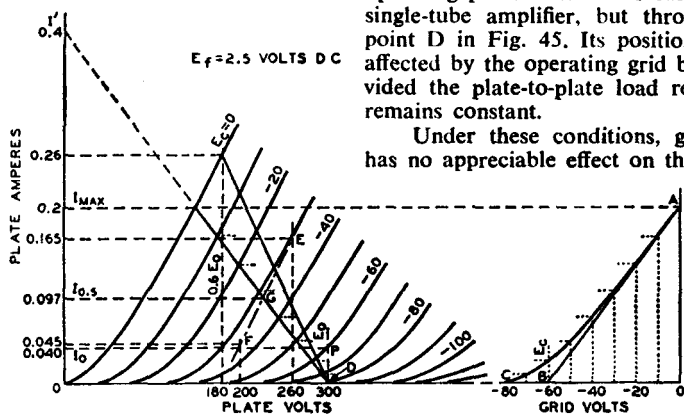

Fig. 45—Graphic calculations for class AB1 amplifier using a power triode.
In class AB1 push-pull amplifier service using triodes, the operating conditions may be determined graphically by means of the plate family if  $E_o$ , the desired operating plate voltage, is given. In this service, the dynamic load line does not pass through the operating point P as in the case of the single-tube amplifier, but through the point D in Fig. 45. Its position is not affected by the operating grid bias provided the plate-to-plate load resistance remains constant.
In general, for any load line through point D, Fig. 45, the plate-to-plate load resistance in ohms of a push-pull amplifier is  $R_{pp} = 4E_o/I'$ , where  $I'$  is the plate-current value in amperes at which the load line as projected intersects the plate-current axis, and  $E_o$  is in volts. This formula is another form of the one given under push-pull class A amplifiers,  $R_{pp} = 4(E_o - 0.6E_o)/I_{max}$ , but is more general. Power output =  $(I_{max}/\sqrt{2})^2 \times R_{pp}/4$ , where  $I_{max}$  is the peak plate current at zero grid volts for the load chosen. This formula simplified is  $(I_{max})^2 \times R_{pp}/8$ . The maximum-signal average plate current is  $2I_{max}/\pi$  or  $0.636 I_{max}$ ; the maximum-signal average power input is  $0.636 I_{max} \times E_o$ .
**Example:** Fig. 45 illustrates the application of this method to a pair of power triodes operated at  $E_o = 300$  volts. Each tube has a plate-dissipation rating of 15 watts. The method is to
the plate family and the load line. Fig. 46 is a curve of instantaneous values of plate current and dc grid-bias voltages taken from Fig. 45. Values of grid bias are read from each of the grid-bias curves of Fig. 45 along the load line and are transferred to Fig. 46 to produce the curved line from A to C. A tangent to this curve, starting at A, is drawn to intersect the grid-voltage abscissa. The point of intersection, B, is the operating grid bias for fixed-bias operation. In the example, the bias is  $-60$  volts. Refer back to the plate family at the operating conditions of plate volts  $= 300$  and grid bias  $= -60$  volts; the zero-signal plate current per tube is seen to be 0.04 ampere.
As in the case of the push-pull class A amplifier, the second-harmonic distortion in a class AB1 amplifier using triodes is very small and is largely canceled by virtue of the push-pull connection. Third-harmonic distortion, however, which may be larger than permissible, can be found by means of composite characteristic curves. A complete family of curves can be plotted, but for the present purpose only the one corresponding to a grid bias of one-half the peak grid-voltage swing is needed. In the example, the peak grid voltage per tube is 60 volts, and the half value is 30 volts. The composite curve, since it is nearly a straight line, can be constructed with only two points (see Fig. 45). These two points are obtained from deviations above and below the operating grid and plate voltages.
These steps provide points at 260 volts and 0.165 ampere (E), and at 200 volts and 0.045 ampere (F). A straight line through these points is the composite curve for a bias of  $-30$  volts, shown as a long-short dash line in Fig. 45. At the intersection of the composite curve and the load line, G, the instantaneous composite plate current at the point of one-half the peak signal swing is determined. This current value, designated  $I_{0.5}$  and the peak plate current,  $I_{max}$ , are used in the following formula to find the peak value of the third-harmonic component of plate current.